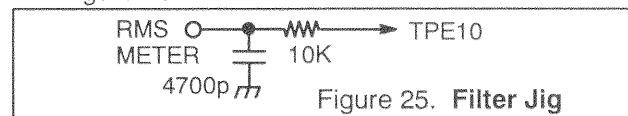

Figure 25. Filter Jig
1. Connect an RMS meter with filter jig as shown in Figure 25.